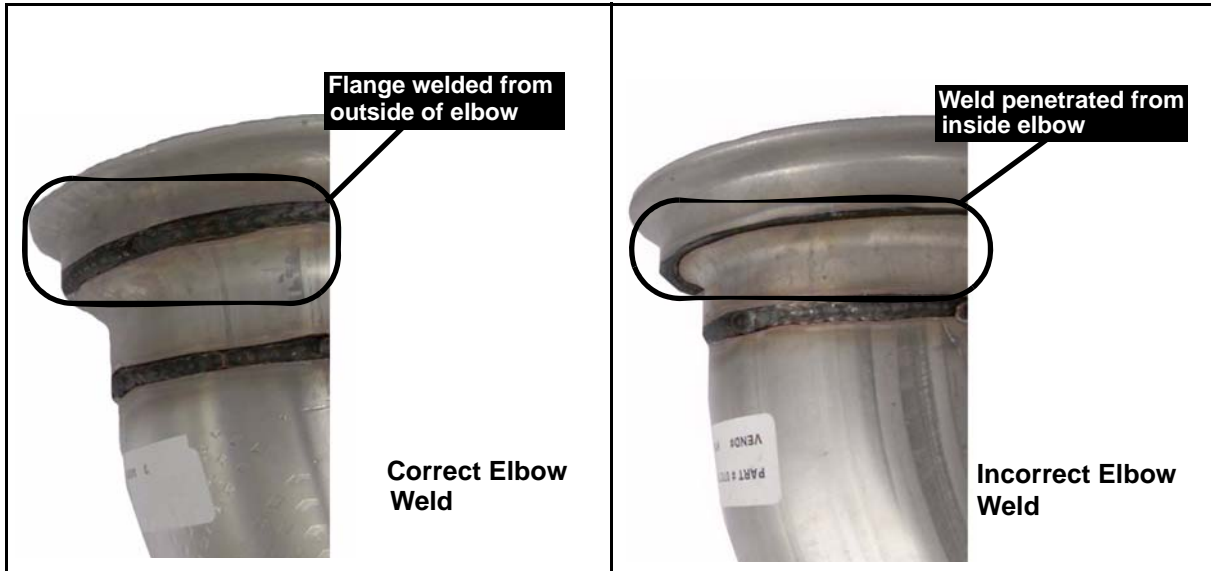

Figure 1-2 Exhaust Elbow Welds
5. Inspect exhaust elbow for correct welds. See Figure 1-2